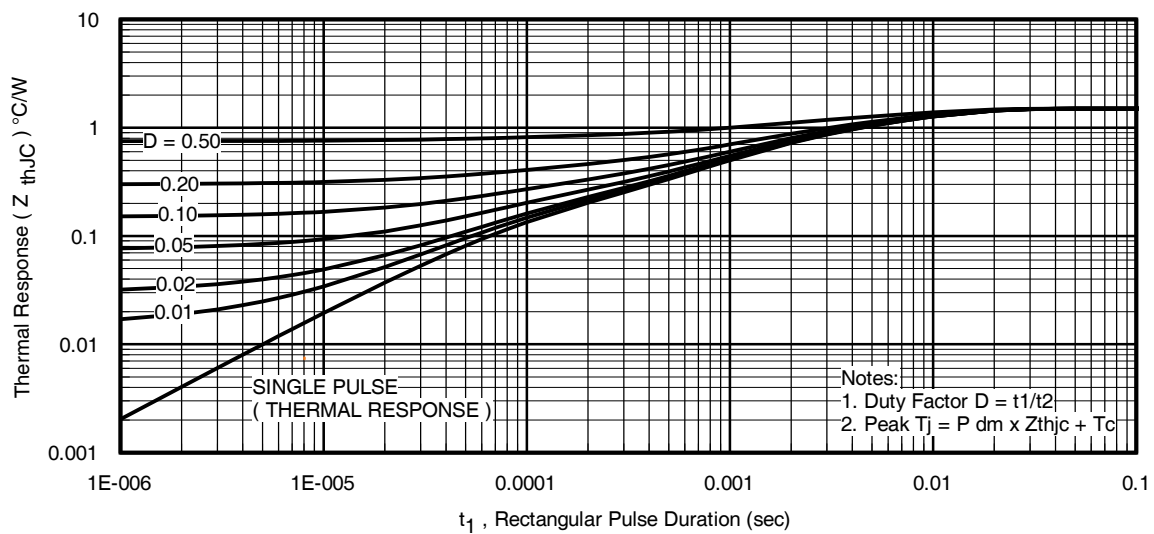
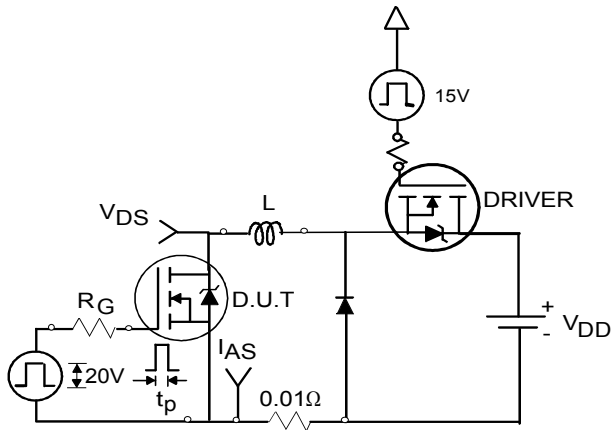

Fig 11. Maximum Effective Transient Thermal Impedance, Junction-to-Case
Fig 12a. Unclamped Inductive Test Circuit
- ① Repetitive rating; pulse width limited by max. junction temperature. (See fig. 11)
- ② Limited by T_{Jmax} , starting $T_J = 25^\circ\text{C}$, $L = 8.1\text{mH}$, $R_G = 50\Omega$, $I_{AS} = 5.6A$, $V_{GS} = 10V$. Part not recommended for use above this value.
- ③ Pulse width $\leq 1.0\text{ms}$; duty cycle $\leq 2\%$.
- ④ $C_{oss\text{ eff.}}$ is a fixed capacitance that gives the same charging time as C_{oss} while V_{DS} is rising from 0 to 80% V_{DSS}
- ⑤ Limited by T_{Jmax} , see Fig.12a, 12b, 15, 16 for typical repetitive avalanche performance.
- ⑥ This value determined from sample failure population. starting $T_J = 25^\circ\text{C}$, $L = 8.1\text{mH}$, $R_G = 50\Omega$, $I_{AS} = 5.6A$, $V_{GS} = 10V$.
- ⑦ When mounted on 1" square PCB (FR-4 or G-10 Material). For recommended footprint and soldering techniques refer to application note #AN-994
- ⑧ R_θ is measured at T_J approximately 90°C
3. Equation below based on circuit and waveforms shown in Figures 12a, 12b.